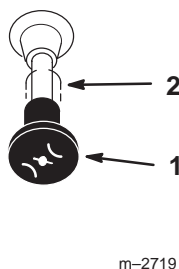

Figure 15
4. Move the choke control to *on* position before starting a cold engine (Fig. 15).
7. After the engine starts, move the choke to *off* (Fig. 15). If the engine stalls or hesitates, move the choke back to *on* for a few seconds. Then move the throttle lever to desired setting. Repeat this as required.